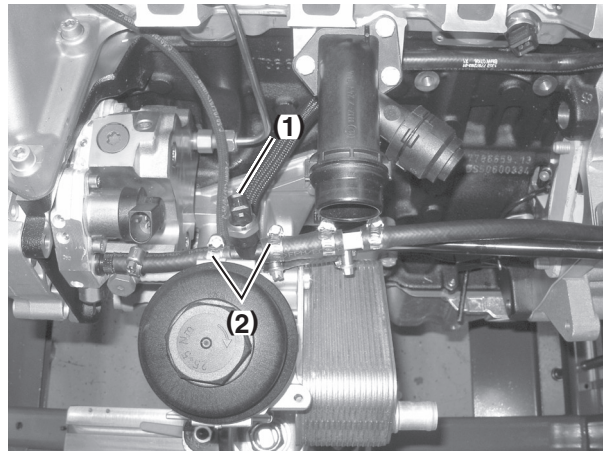

Figure 12-33
4. Disconnect electrical connector from sensor (**Figure 12-33, (1)**).
5. Loosen hose clamps (**Figure 12-33, (2)**) and remove hoses from sensor.